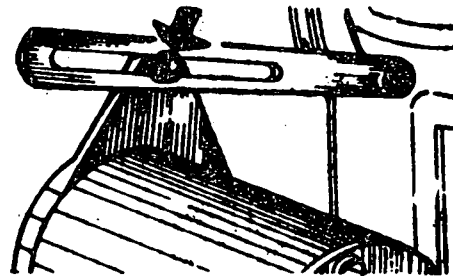

Fig. 5
- b) Loosen the bolt which holds the generator to the bracket (Fig. 5).